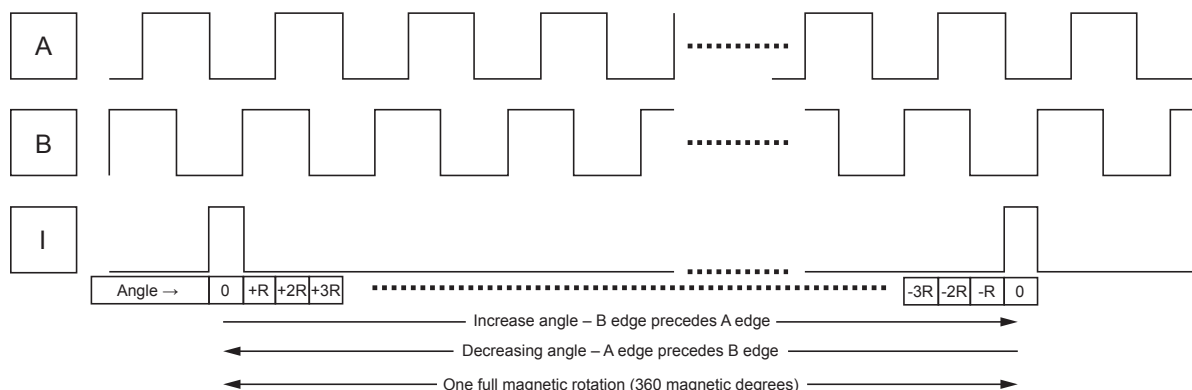

Figure 5: One Full Revolution
The AAS33051 offers an incremental output mode in the form of quadrature A/B and Index outputs to emulate an optical or mechanical encoder. The A and B signals toggle with a 50% duty cycle (relative to angular distance, not necessarily time) at a frequency of $2N$ cycles per magnetic revolution, giving a cycle resolution of $(360 / 2^N)$ degrees per cycle. B is offset from A by $1/4$ of the cycle period. The "I" signal is an index pulse that occurs once per revolution to mark the zero (0) angle position. One revolution is shown in Figure 5.